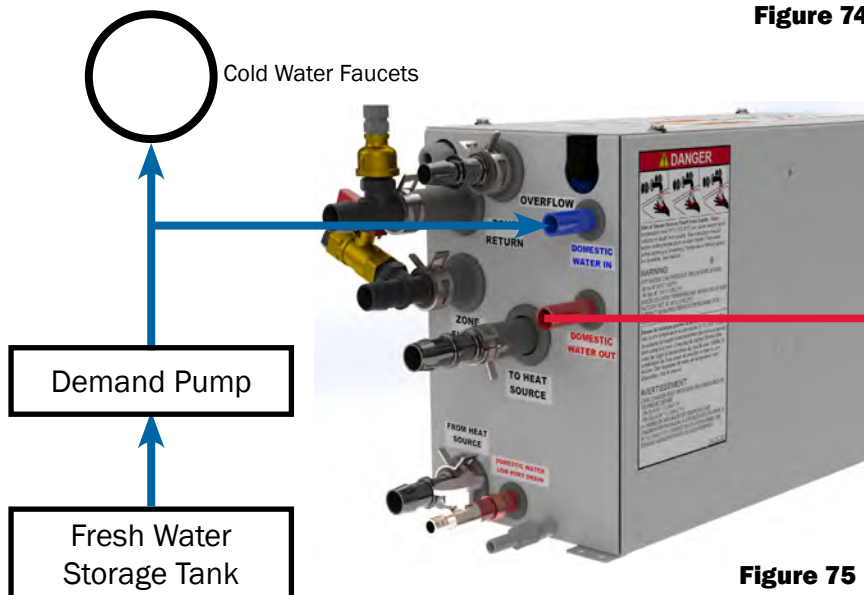

Figure 75
- Plumb the domestic water system according to Figure 75.